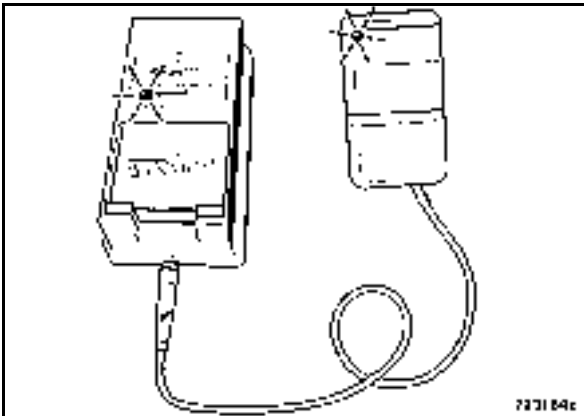

Fig. 80
- Connect the battery charger to a power source (Fig. 80).